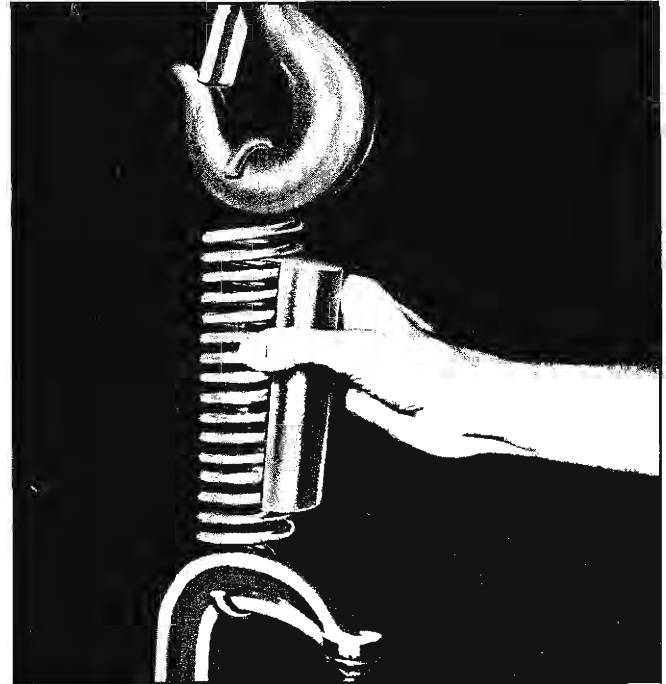

Fig. 39—Installing Tool J-9559 in New Spring
- Hook one end of spring in clamp and the other end in hook of chain hoist, "cherry picker" or equivalent, as shown in Figure 39.